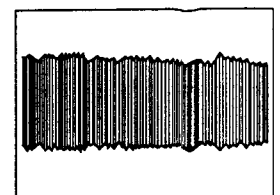

Fig. 4 RF waveform
2. Search for #2,701 and observe the RF waveform. (Fig. 4)